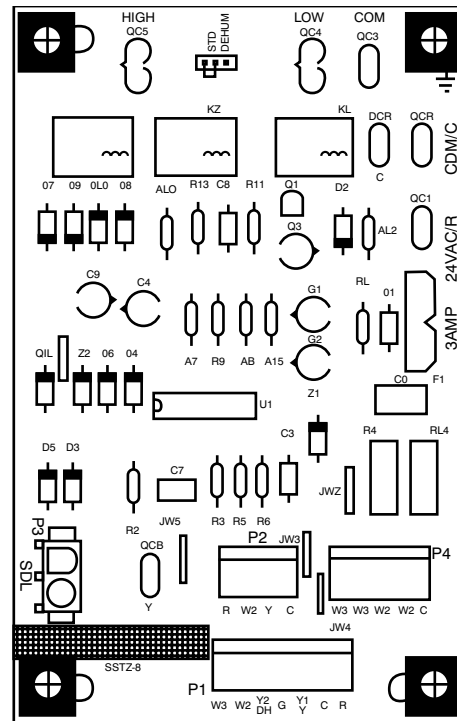

Fig. 14 – Interface Fan Board (IFB)
The cooling speed is marked “LOW” on the interface fan board (IFB) (See Fig. 14). The factory-shipped settings are noted in Table 6. There are 4 additional speed tap wires available for use in either electric heating or cooling (For color coding on the indoor fan motor leads, see Table 5). The additional 4 speed tap wires are shipped loose with vinyl caps and are located in the control box, near the interface fan board (IFB) (See Fig. 14).
2. Remove the current speed tap wire from the “LOW” terminal on the interface fan board (IFB) (See Fig. 14) and place vinyl cap over the connector on the wire.
1. Using Fig. 14, move the two pin DEHUM jumper from the “STD” position to the “DEHUM” position.
2. Remove fan speed tap wire from the “LOW” terminal on the interface fan board (IFB) (See Fig. 14).
When the DEHUM feature is not used, the continuous fan speed will be the same as cooling fan speed. When the DEHUM feature is used, the continuous fan will operate on IFB "LOW" speed when the DH control lead is not energized, or IFB "HIGH" speed when the DH lead is energized (see Fig. 14).